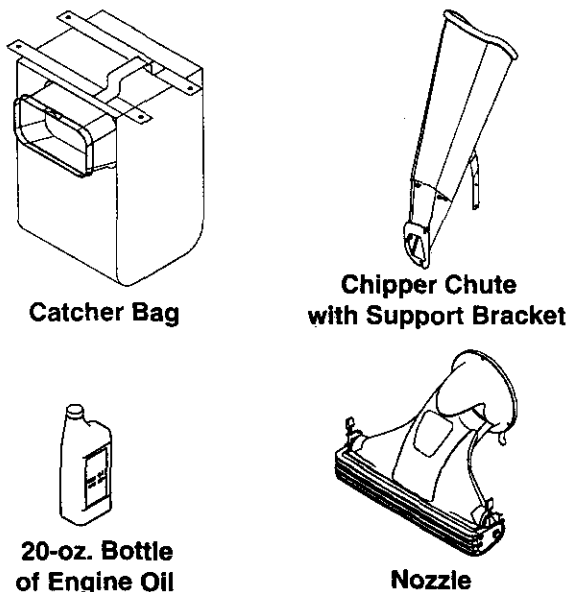

Figure 1
- Remove all loose parts. See Figure 1.
(See Figure 1.)
4. Safety Glasses (Not Shown in Figure 1)